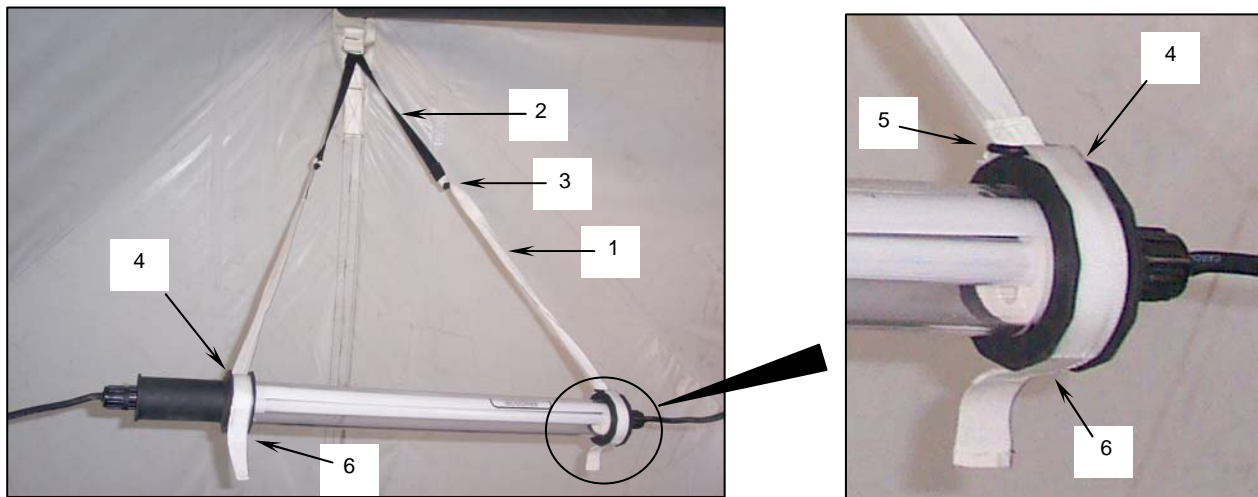

Figure 4. Installing the Electric Lights.
- a. Insert one light-hanging strap (**Figure 4, Item 1**) through the loop in the tent light hanger (**Figure 4, Item 2**).
- b. Insert one end of that light-hanging strap (**Figure 4, Item 1**) through the loop in the other end of the same light-hanging strap.
- c. Pull the light-hanging strap tightly through until it knots at the loop (**Figure 4, Item 3**) of the tent light hanger. Repeat this procedure for the second strap.
- e. Loop the light-hanging straps around the lip at both ends of the light (**Figure 4, Item 4**).
- f. Insert the loose end of both straps through its D-ring (**Figure 4, Item 5**) and secure with its hook and loop fasteners (**Figure 4, Item 6**).